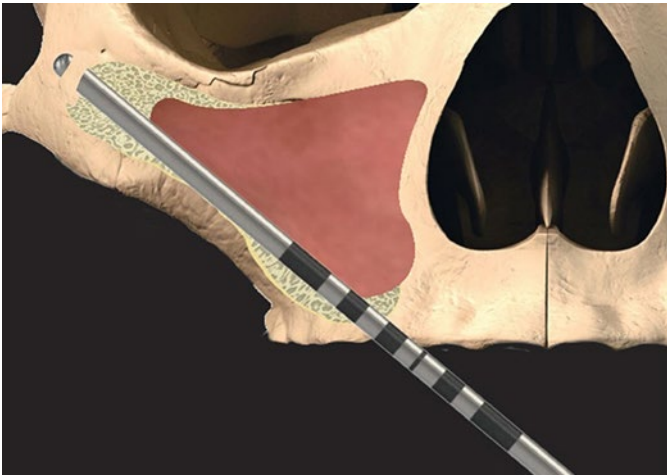

Figure 9
6. The depth of the prepared implant site and the implant head angulation are gauged by use of the angled depth gauge (CH-I-DG/ I-ZYG-DG-1) (Figure 9).